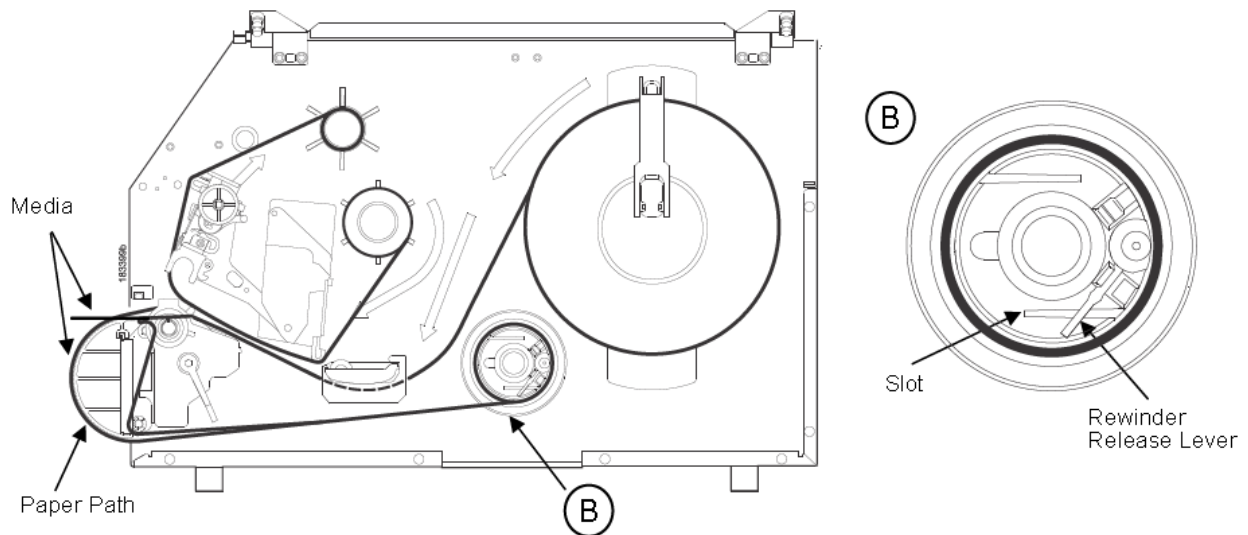

Figure 2 Loading Media
1. To load media, refer to *Figure 2* and follow “Loading Media” steps 1 through 9 on page 33.
8. Complete the media routing as shown in *Figure 2*.